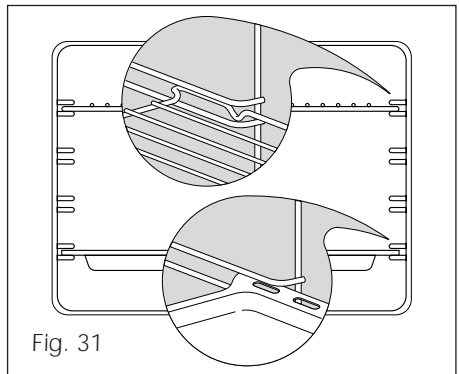

Fig. 31
- Slide the tray and rack into the runners (Fig. 31).